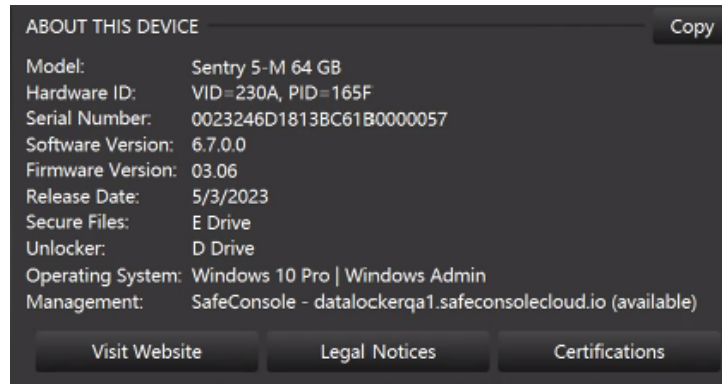

Figure 2 - PC Application
3. Click on the DataLocker icon in the system tray to bring up a pull-up menu and select “About” option (*refer to Figure 2*). The application will display the Model, firmware version and other module details. Verify that the firmware version is 3.06. This is the FIPS validated version of the module.